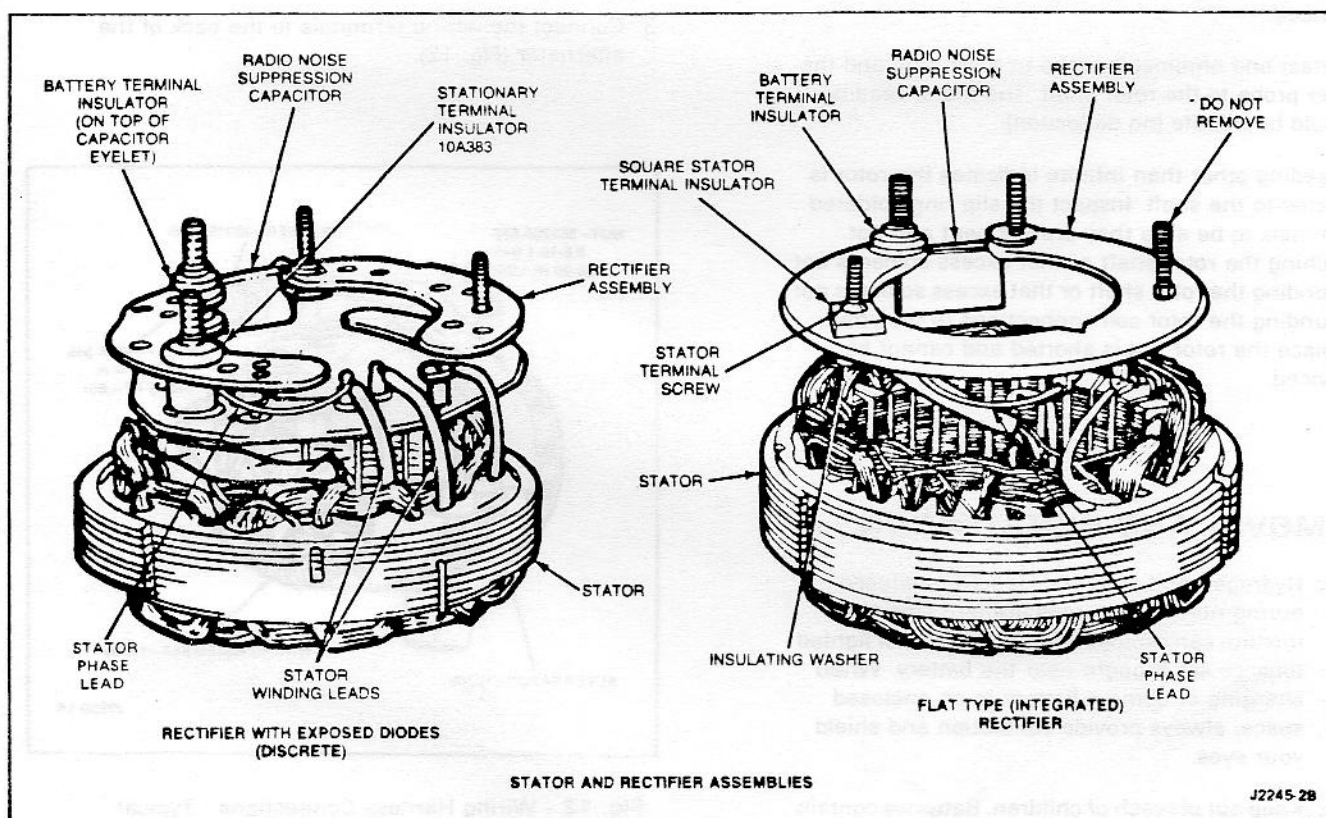

Fig. 13 - Stator and rectifier Assemblies
The rear terminal alternator will have one of two types of rectifier assembly. One is a flat design with built-in diodes. The other type is a stacked design with exposed diodes (Fig. 13). Procedural steps affected by the differences in the rectifiers will be noted.
17. Remove the radio suppression capacitor and the battery terminal insulator from the rectifier assembly (Fig. 13).
15. Install the radio suppression capacitor and battery terminal insulator on the rectifier assembly (Fig. 13).
16. Install the insulator on the stator terminal screw (Fig. 13).